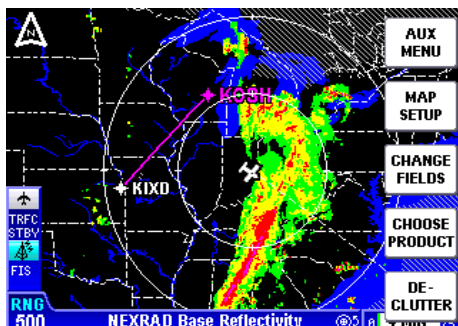

Figure 2-19
1. Press the **MENU** Key to display Figure 2-19.